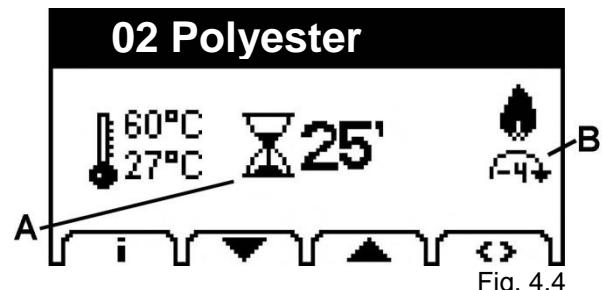

Fig. 4.4
- During the **drying stage**, the remaining drying time is displayed (Fig. 4.4/A), and depending on the type of drying selected, the Autospeed or speed change icon appears (Fig. 4.4/B).